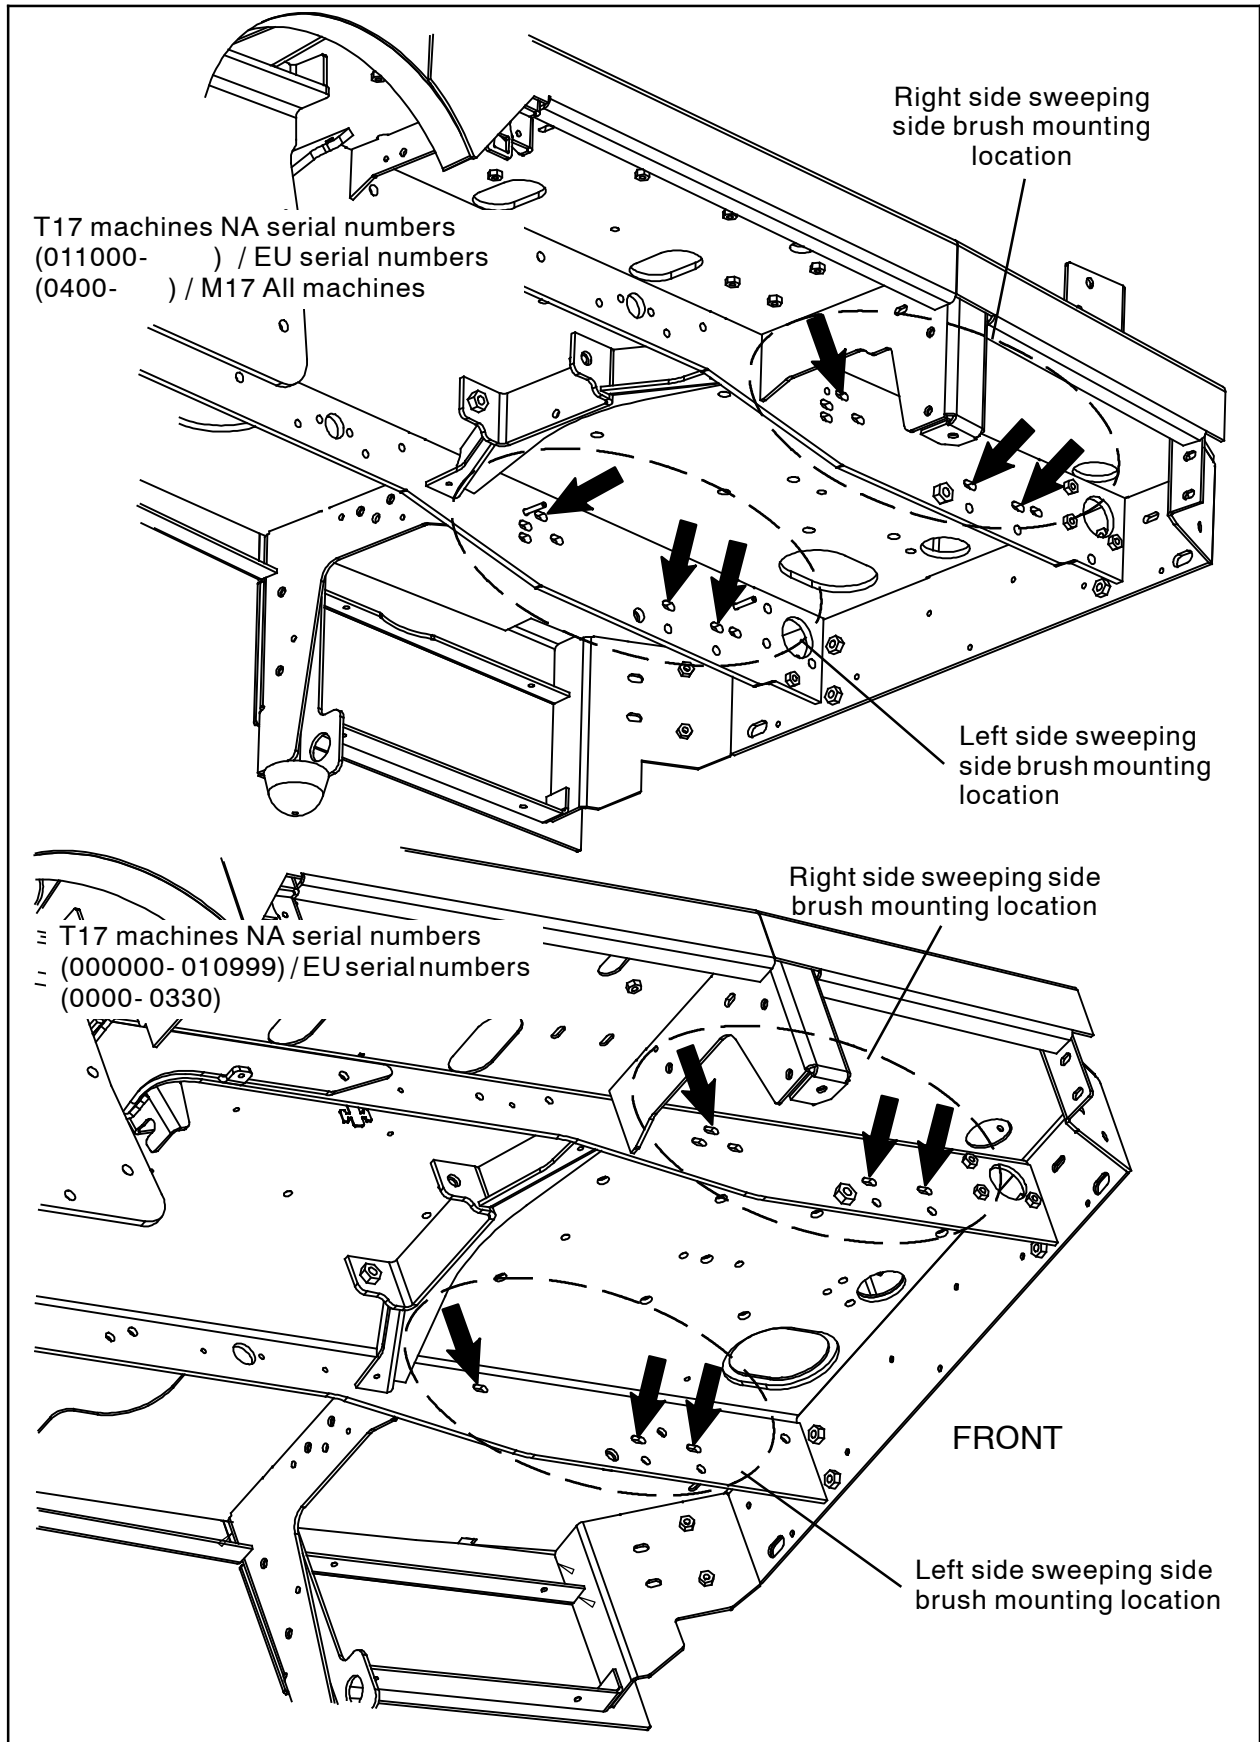
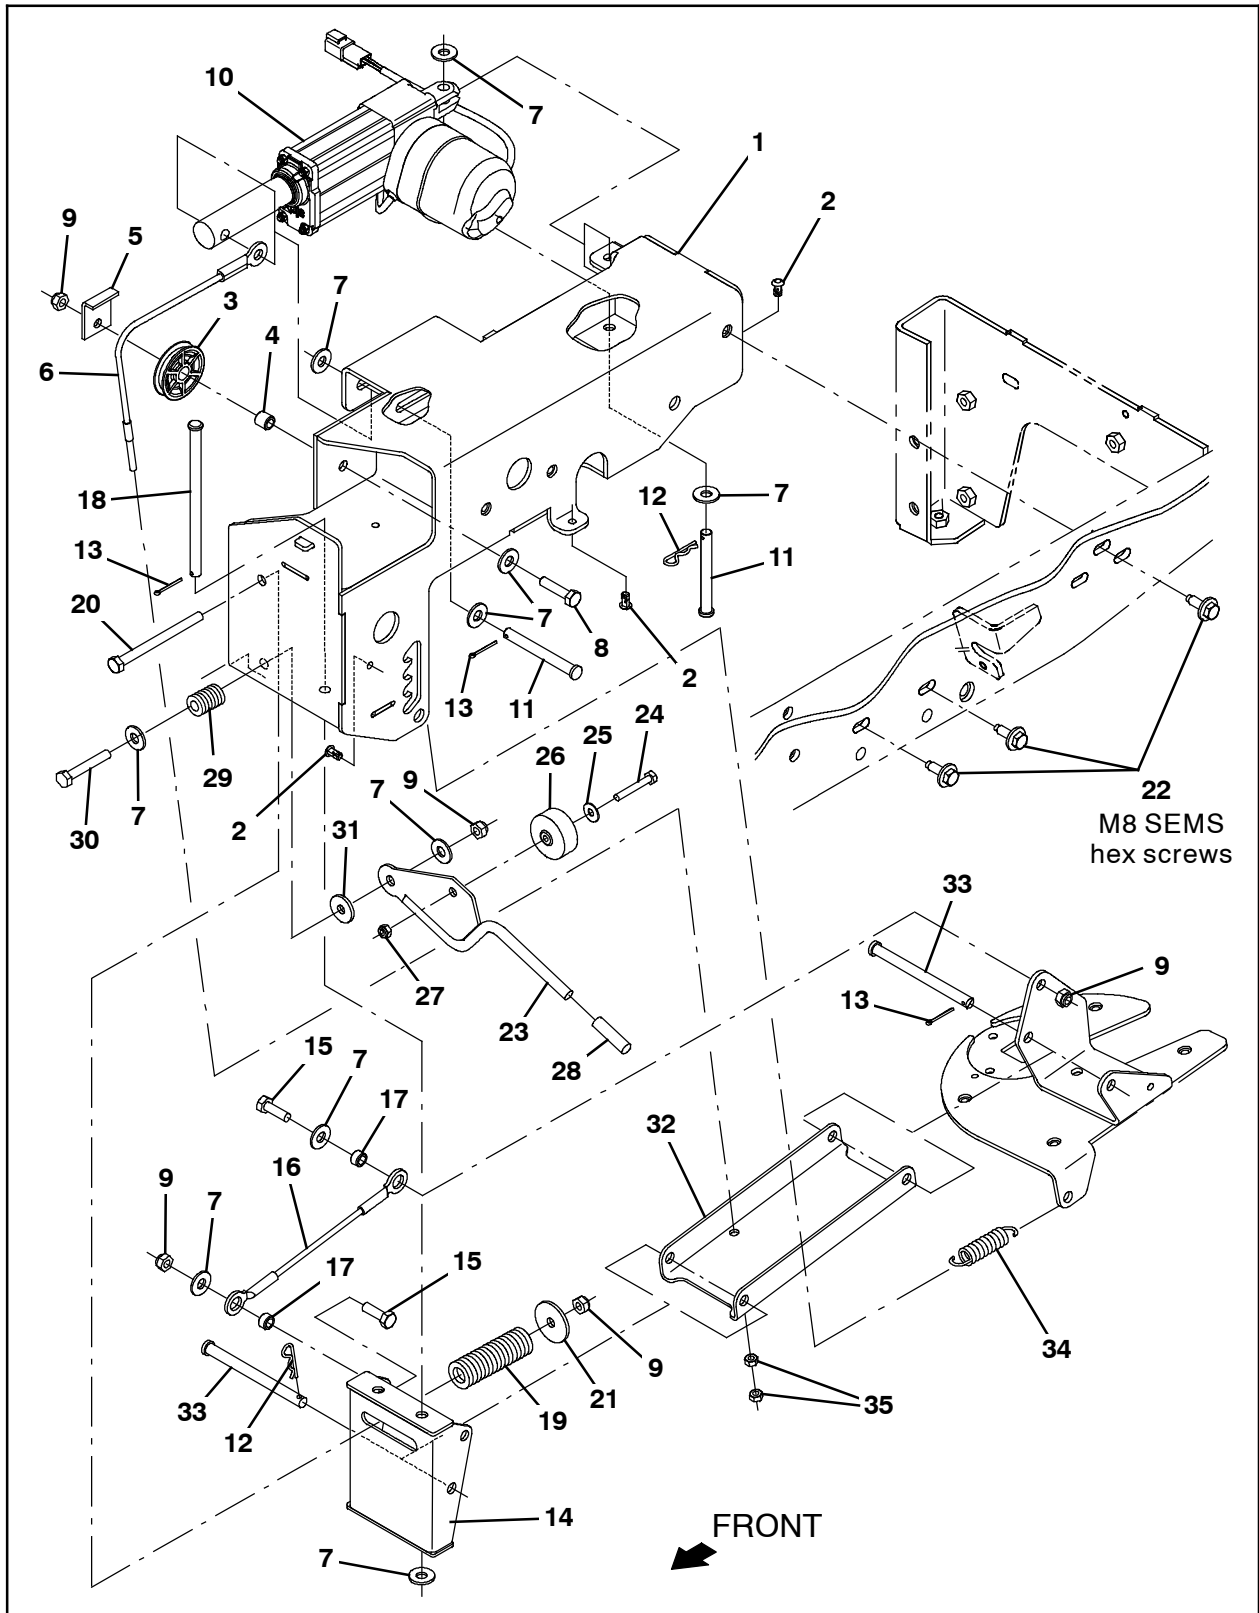
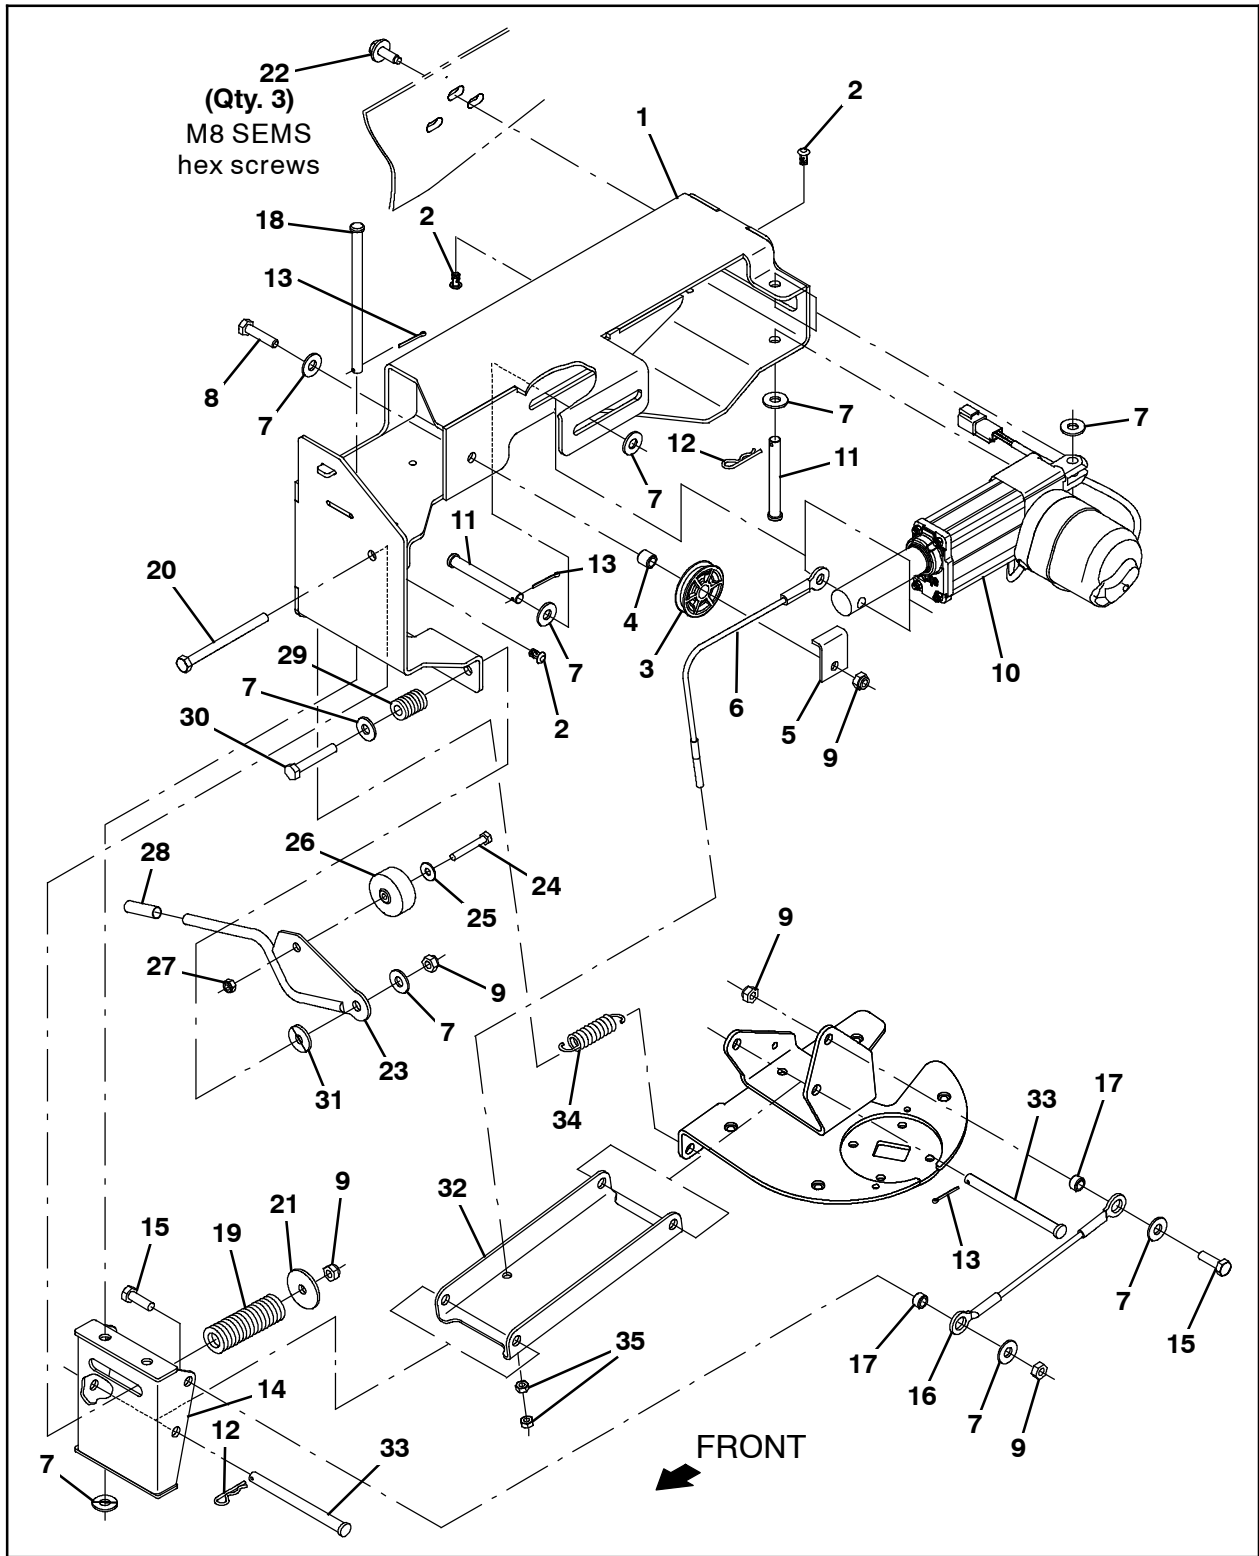

FIG. 1 - Sweeping Side Brush Mounting Locations
FIG. 2 - Sweeping Side Brush Lift Group, Right Side
FIG. 4 - Sweeping Side Brush Lift Group, Left Side
3. Use three M8 SEMS hex screws to install the right sweeping side brush assembly onto the frame of the machine. (Fig. 1 / Fig. 2)
4. Connect the side sweep harness to the right sweeping side brush drive motor and actuator. (Fig. 2 / Fig. 11)
5. Use three M8 SEMS hex screws to install the left sweeping side brush assembly onto the frame of the machine. (Fig. 1 / Fig. 4)
6. Connect the side sweep harness to the left sweeping side brush brush drive motor and actuator. (Fig. 4 / Fig. 11)